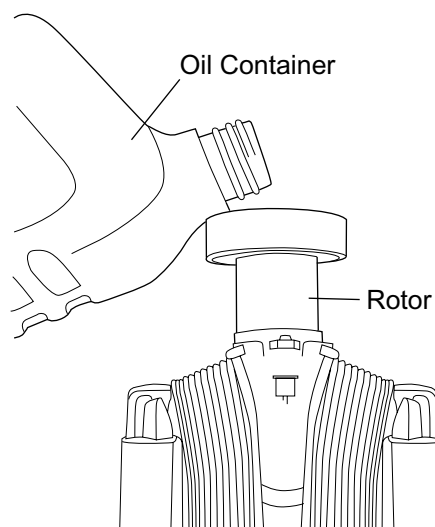

Figure 31: Pouring Oil in Rotor Shaft
- (6) Refer to Figure 31. With the generator in the vertical position, pour a small amount of motor oil in the bore in the center of the rotor shaft. (The oil level should be flush with the end of the rotor shaft.)